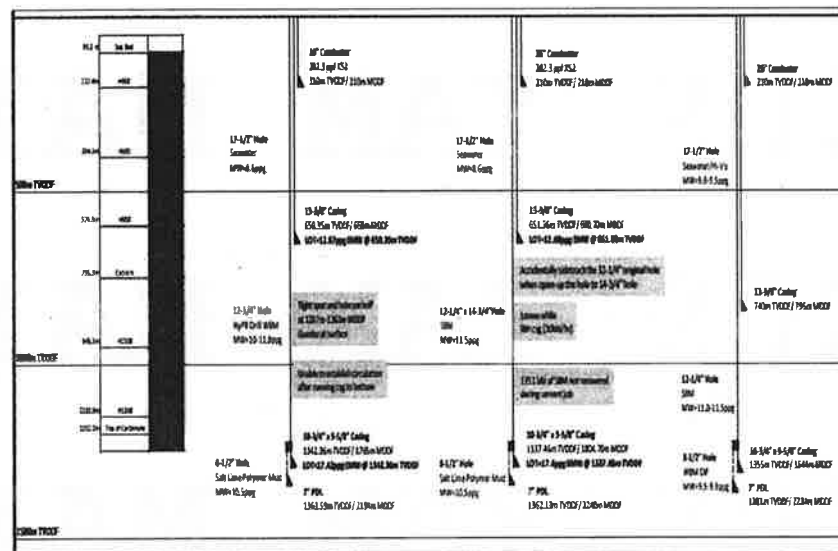

FIGURE Q1c: Stick chart of the offset wells
- c. During the planning stage, technical limit engineer would need to analyze the offset well stick chart and review the possible risk that may take place. Subsequently the engineer needs to propose the mitigation plan to avoid those risk from happening and at the same time optimizing operational steps and procedure. The plan is to drill Well A. **FIGURE Q1c** shows the stick chart of the offset wells that was drilled prior Well A as reference. As the drilling engineer in charged, propose the mitigation plan for the listed issue and cause as given in **TABLE Q1c** in order to drill for Well A successfully.